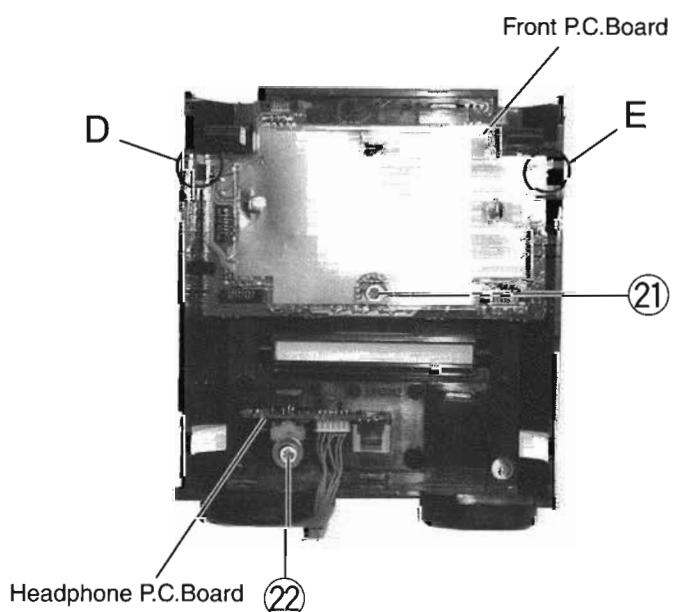

Fig.33
■ Removing Front P.C.Board (see Fig.33)
2. Remove the one screw ⑲ attaching the front board. Expand and release joints D and E of the front board and front cabinet respectively.
3. Remove the one screw ⑳ attaching the headphone P.C.Board.